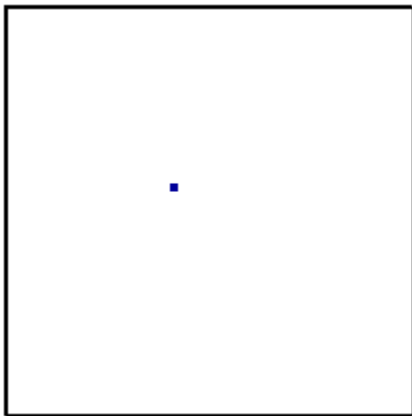

Figure 17: Sketched rectangle.
4. Sketch a rectangle approximately 60mm square, centered roughly on the projected origin (see Figure 17).